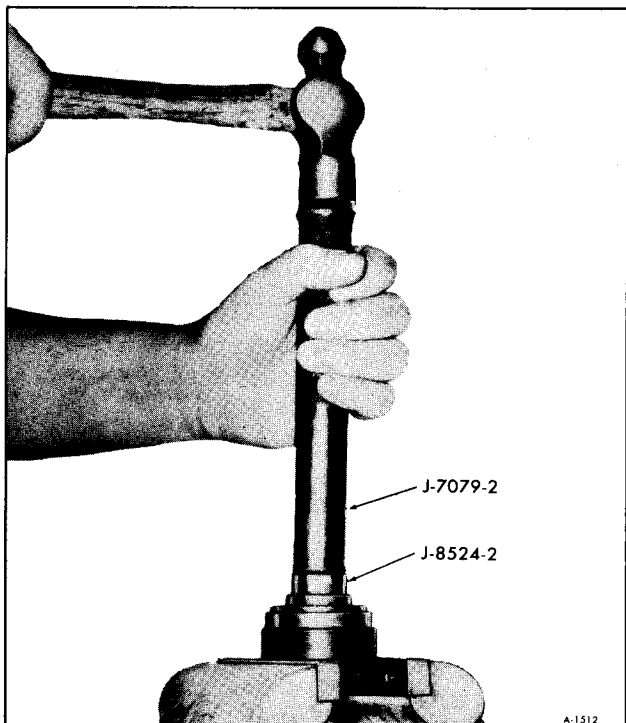

Figure 32—Removing Bearing and Seal
3. If the needle bearing is to be replaced, remove the retaining ring using Internal Pliers J-4245. Remove thrust bearing as outlined in Step 2 above. Drive needle bearing, dust seal and oil seal from adjuster plug using Bearing Remover J-8524-2 and Driver J-7079-2 as shown in Figure 32. Discard the seals.